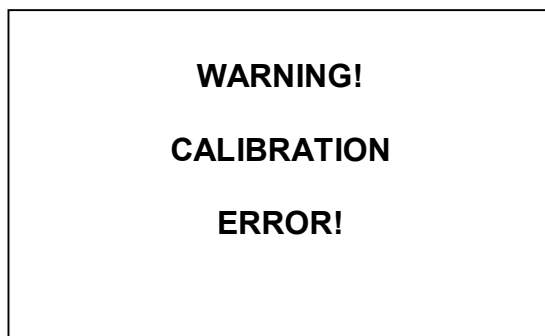

Fig. 2.3
- 4 If buffer solution pH value is not identified automatically, the display shown in Fig. 2.3 shall come up. Refer to 2.5 of the Operation Manual (Troubleshooting. Table 2.1).
- 10 If pH value of the second buffer solution is not identified automatically, the display shown in Fig. 2.3 shall come up. Refer to 2.5 of the Operation Manual (Troubleshooting. Table 2.1).